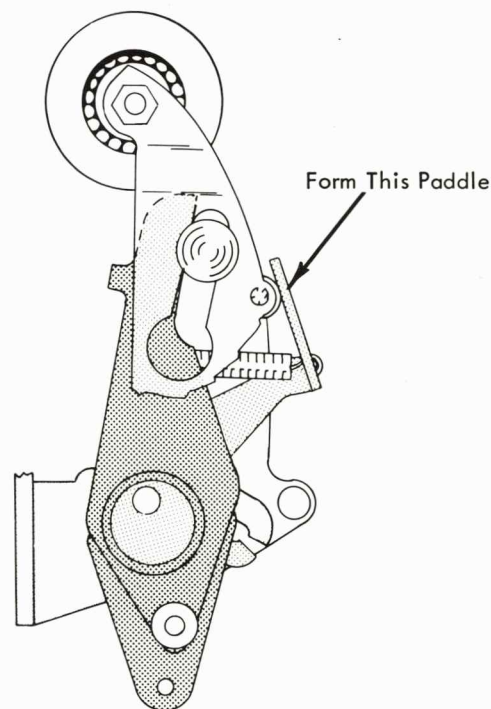

FIGURE 83. Arm Assembly In -3 Position
12. Ratio Change Adjustment - With the machine half-cycled to an upper case -3 character, form the paddle on the rotate eccentric arm until the upper case -3 character detents the same as the upper case -5 character. Each time the paddle (Fig. 83) is formed the machine must be recycled under power before observing the detenting of